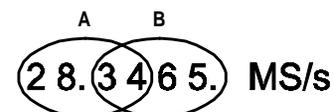

Figure 9. Symbol rate low and high-resolution display
Symbol Rate: (see Figure 9) For example; if the current Symbol Rate is 28.3465 Msymbols/s, changing to Alt-1 Mode (ALT LED flashes) and then pressing 5 displays the four most significant digits on the front panel (i.e., 28.34). At low resolution (A), pressing the up \uparrow or down \downarrow arrow button advances the Symbol Rate up or down in 10 Kbit/s steps (i.e., 28.35, 28.36, and so on). Pressing and holding down the up \uparrow or down \downarrow arrow button will increase the step size further.